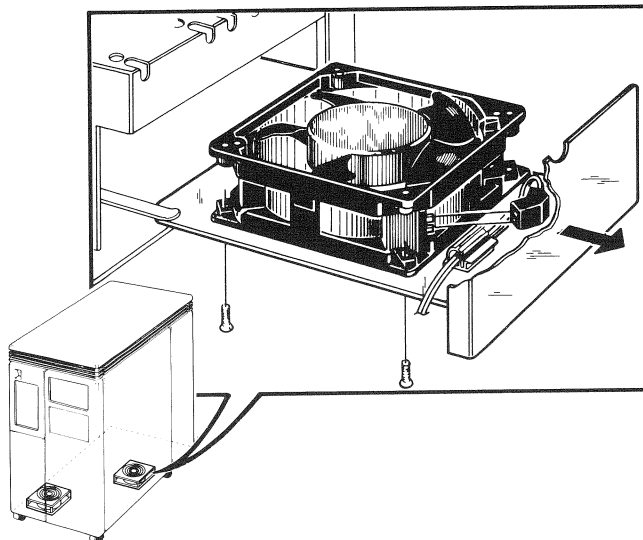

Figure 10-16 Card-Cage Fan Removal
3. Slide the tray below the card cage partially out (Figure 10-16).